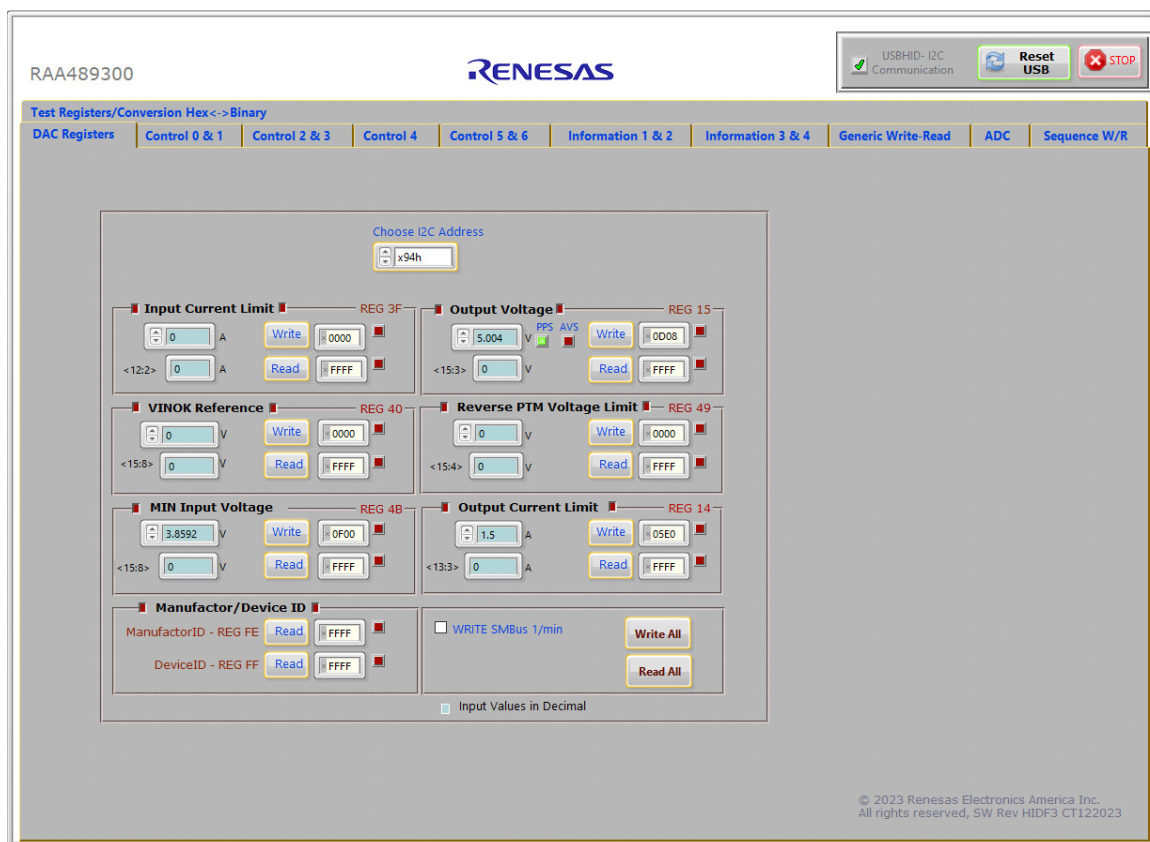

Figure 6. RAA489300 Graphical Interface
The GUI appears (see Figure 6).
2. Check the status of the USB HID-I2C Communication at the top-right of the GUI. If the communication is OK, the USB HID-I2C Communication status shows a green checkmark (see Figure 6).